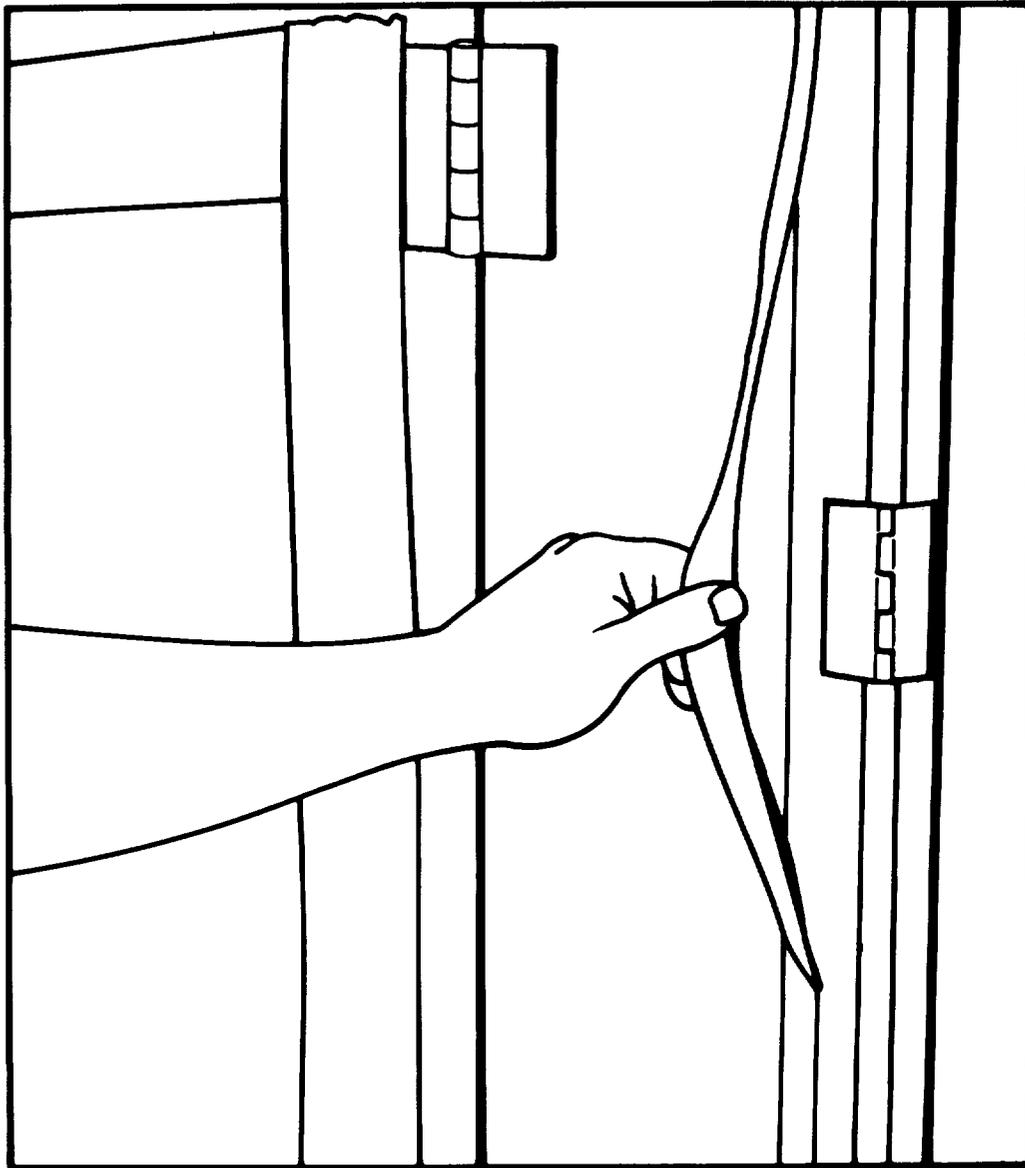

Figure 2-8. Spray Booth with Strippable Filter.
- 3 Glass shields over booth lights are cleaned and coated with light layer of white petroleum grease. (See figure 2-8.)